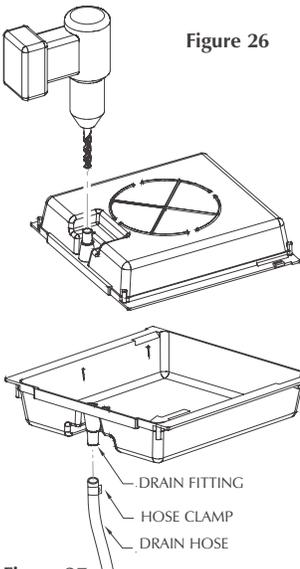

Figure 26
3. Referring to figure 26, first drill a small hole (1/8" dia) centered from the bottom of the drain fitting up through the pan.